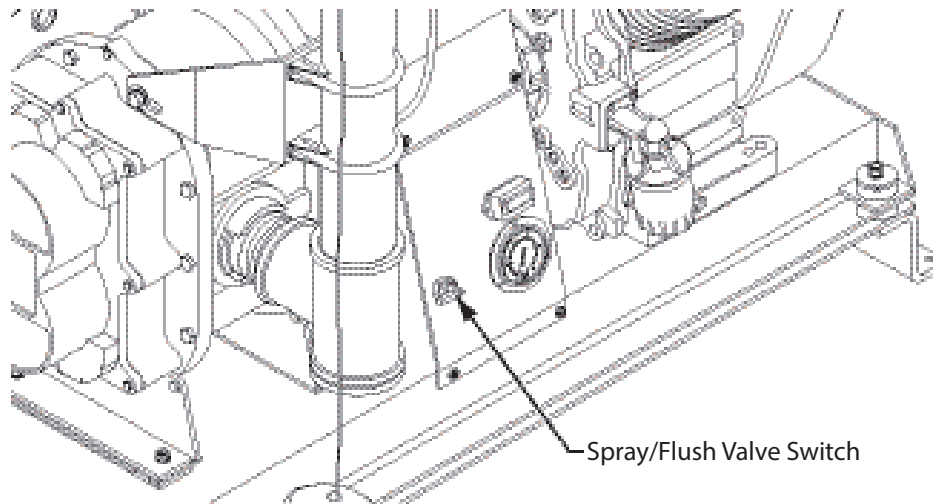

Figure 8 - Spray/Flush Valve
generator. Moving this valve to SPRAY connects the insecticide tank to the nozzle. Moving this valve to FLUSH connects the flush tank to the nozzle. When the Spray switch is turned on, either the insecticide or flush solution will be sprayed from the nozzle. Reference Figure 8.
2. Set the Spray/Flush valve to SPRAY. Reference Figure 8 on page 12.
valve to SPRAY. Reference Figure 8. On the Remote Control Box, move the spray switch to ON position. Reference Figure 4 on page 9.